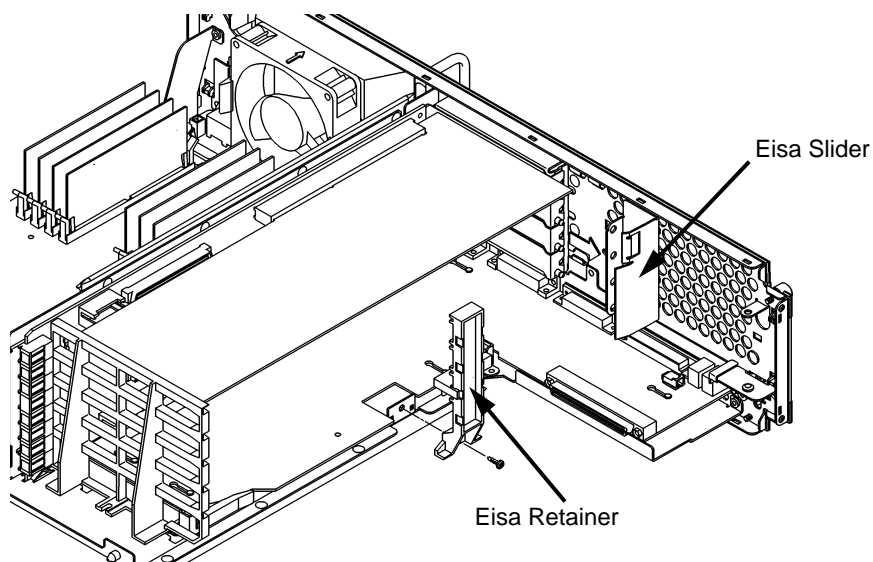

Figure 10
- 2 Remove the screw from the EISA retainer, and remove the EISA retainer, as shown in Figure 10.
- 3 Remove the EISA slider, as shown in Figure 10.